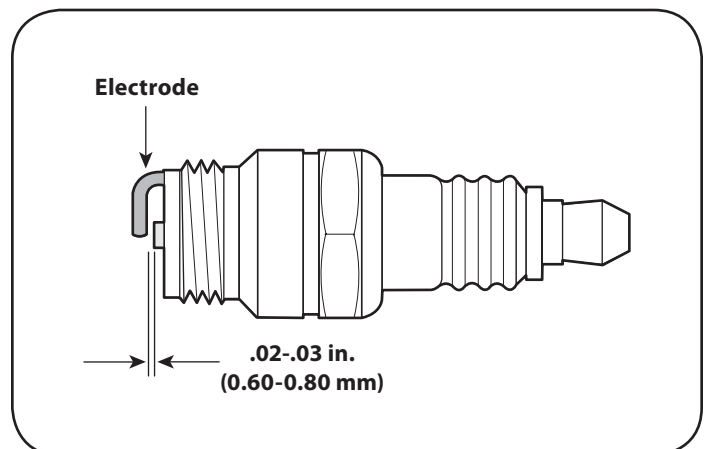

Figure 23
- Measure the plug gap with a feeler gauge. Correct as necessary by bending side electrode. See Figure 23. The gap should be set to .02-.03 inches (0.60-0.80 mm).